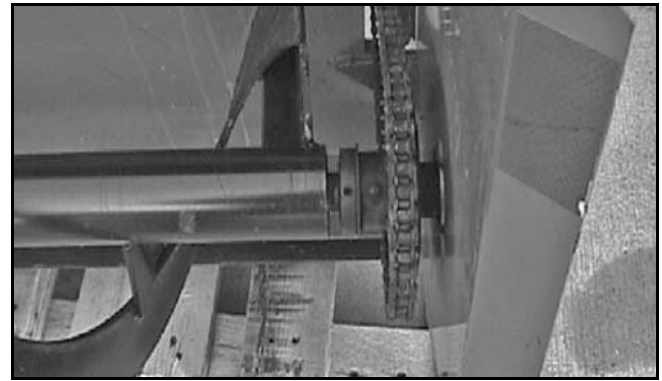

Figure 8. Drive Chain Lubrication
1. Apply grease to drive sprocket grease zerk (See Figure 8).
2. Apply grease or oil to the drive chain regularly, especially after using (See Figure 8).